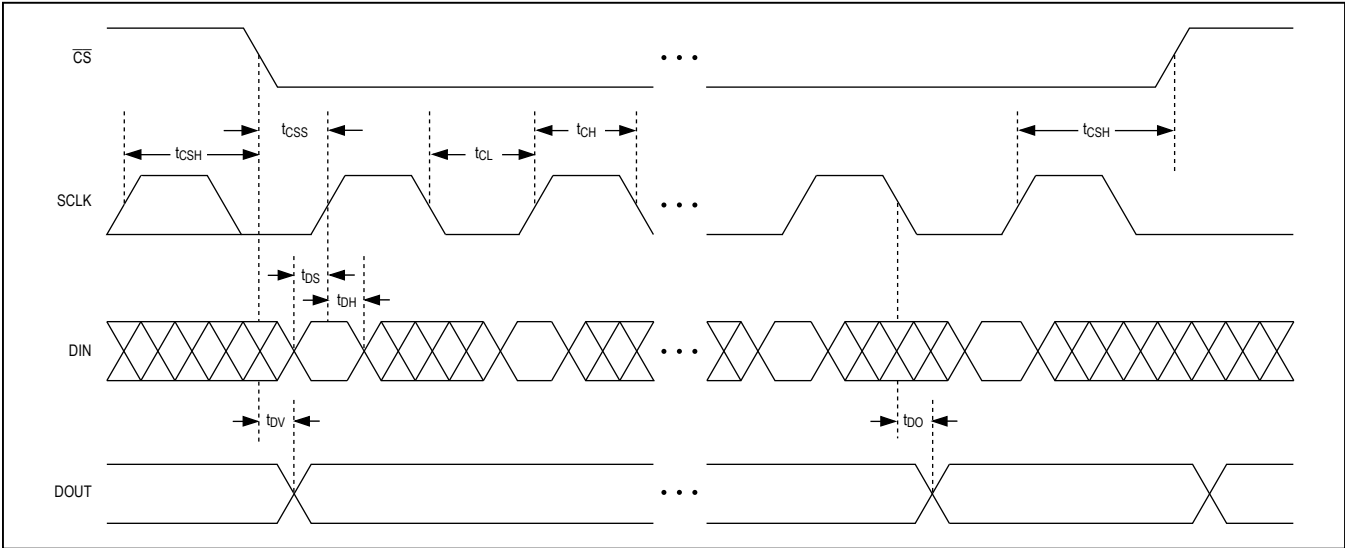

Figure 3. 4-Wire Interface Timing
**Timing Characteristics (Figure 3)**3( $V_+ = 2.5V$  to  $5.5V$ ,  $T_A = T_{MIN}$  to  $T_{MAX}$ , unless otherwise noted.) (Note 1)